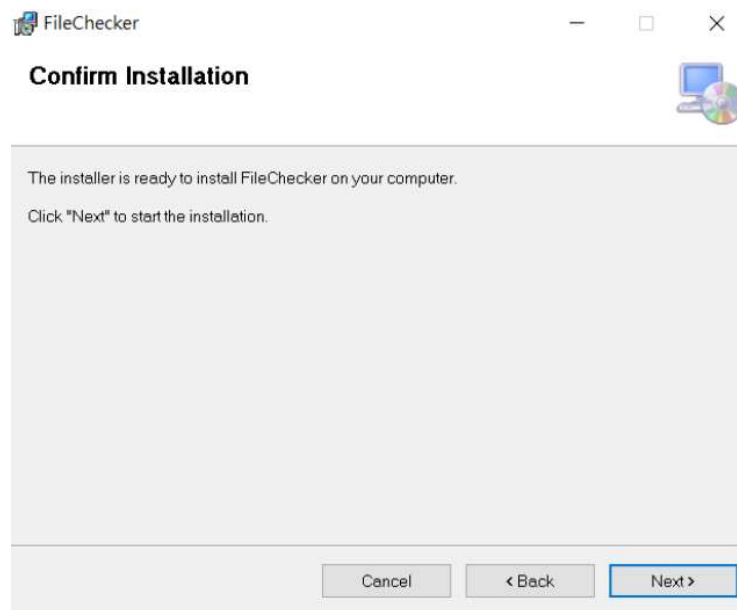

Figure 65
4. Confirm installation, Please Click “ Next ”, as shown in Figure 65.